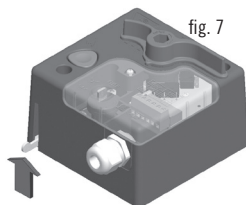
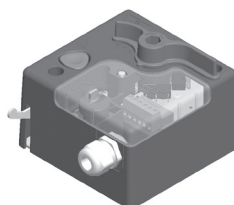

fig. 7
fig. 8
- Lift the metal lever (fig. 7 / fig. 8) on the cover of the control unit until it stops.